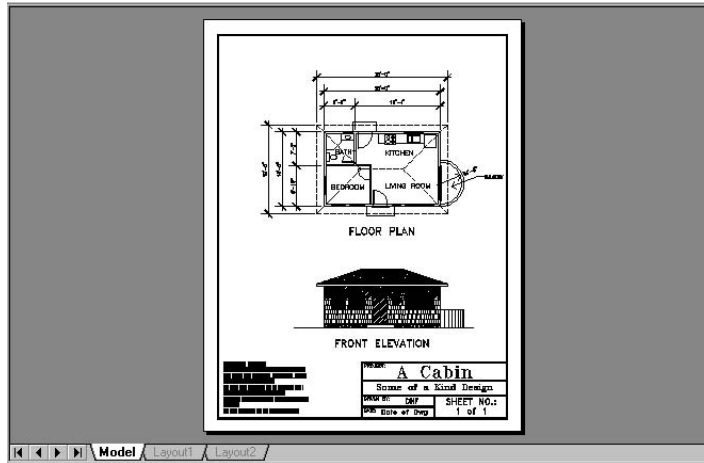

FIGURE 14.9: The preview of Cabin11a, ready to print
1. Click the Preview button. The computer takes a moment to calculate the plot and then displays a full view of your drawing as it will fit on the page (see Figure 14.9).
When your print comes out, it should look like Figure 14.9 (shown earlier). Take a close look at the border. Is the space outside the border equal on the left, right, top, and bottom? It should be if you put a check mark in the Center The Plot box. If not, or if you need to widen one of the margins to make room for a binding, go to the Plot Offset area of the Plot dialog box and uncheck the Center The Plot box. Then change the settings for X and Y.
9. In the lower-left corner, select Preview. Your preview should look like Figure 14.9, shown earlier in this chapter.